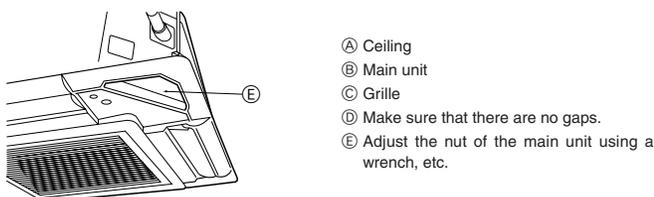

Fig. 8-7
8.4.3. Securing the grille (Fig. 8-7)